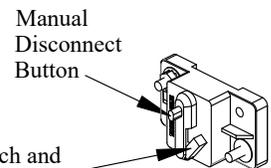

Figure 2: Manually trip circuit breaker.
1. Disconnect the negative battery cable or **Manually Trip** the circuit breaker (Figure 2).
8. **Reconnect** the negative battery cable or **Reset** the circuit breaker (Figure 2).